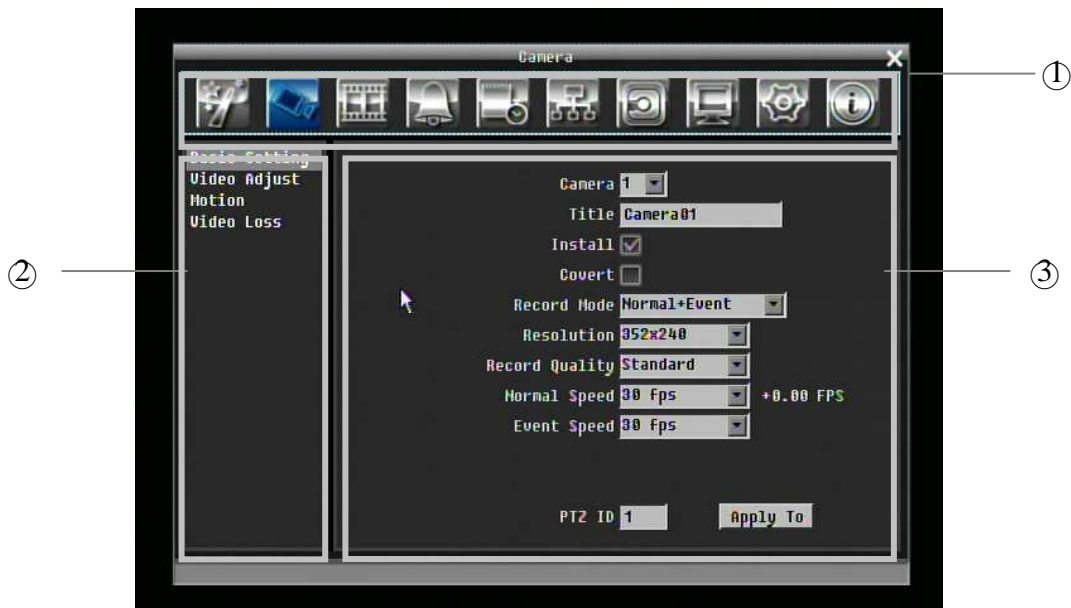

Figure 3-3 (OSD Menu)
**NOTE:** If password is active, you will need to log in first. Refer to “4.2 LOGIN” for information on logging in. The menu (shown in Figure 3-3 (OSD Menu) ) is divided into 3 main sections.